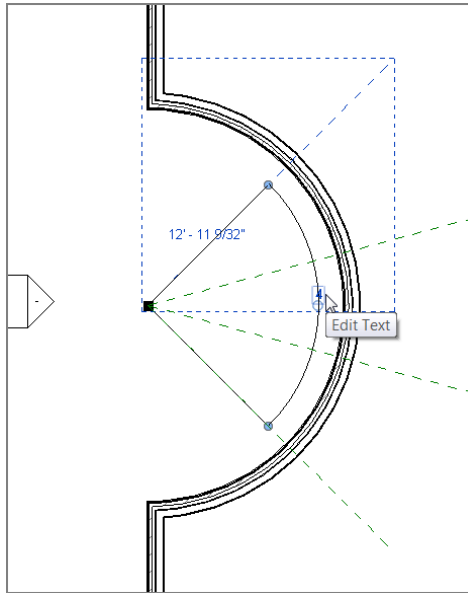

FIGURE 4.15: After the array is created, select one of the arrayed members. Notice that you can change the count.
13. Click (that is, left-click) off into another part of the view. This establishes the array. You should have four reference planes at this point, similar to Figure 4.15.
14. Select (left-click) one of the reference planes. You see a large, dashed box surrounding the reference plane, and a temporary arc dimension with a blue number 4 at the quadrant. It may be obscured by the arc, as it is in Figure 4.15, but it's there nonetheless.